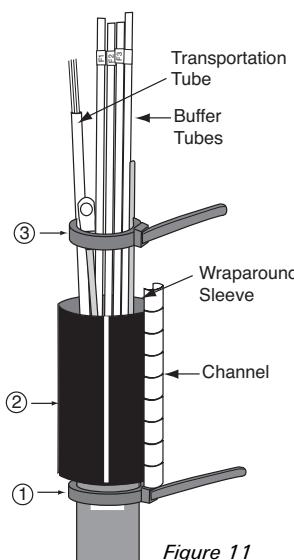

Figure 11
3. Place a tie wrap at the pencil mark on each cable sheath. Wrap the heat-shrinkable sleeves (available in FOSC ACC CB Sleeve W Kit and some Basket kits) around the adhesive tubes. Slide the channels over the rails. (Figure 11) Let the sleeves slide down and rest on the tie wraps. If a bond wire is present, rotate the channel at least 90° from the bond wire.
4. Place another tie wrap around all tubes and wires above the sleeve. (Figure 11, Step 3)